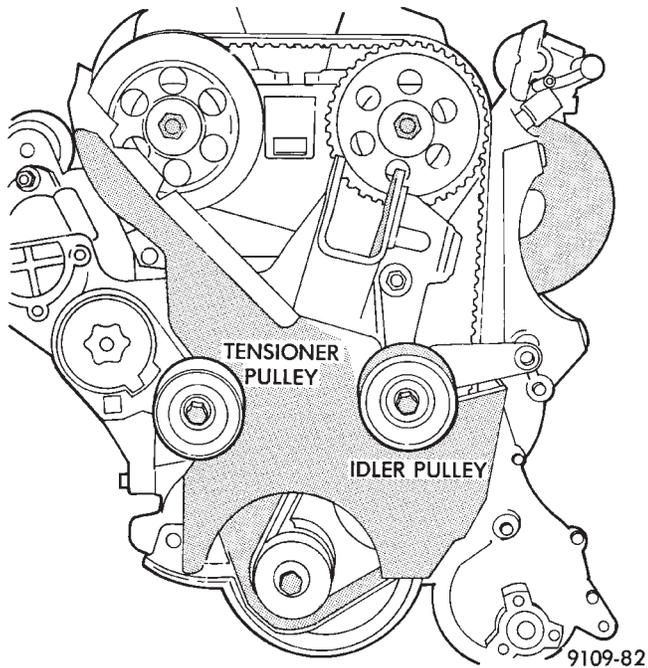

Fig. 4 Timing Belt Cover and Tensioner
- (5) Remove lower accessory drive belt idler and tensioner pulley (Fig. 4).
(1) Raise vehicle on hoist. Install lower timing belt cover and tighten fasteners to 12 N·m (105 in. lbs.) torque (Fig. 4).
(2) Install accessory drive belt tensioner pulley bolt finger tight. Then tighten bolt to 54 N·m (40 ft. lbs.) torque (Fig. 4).